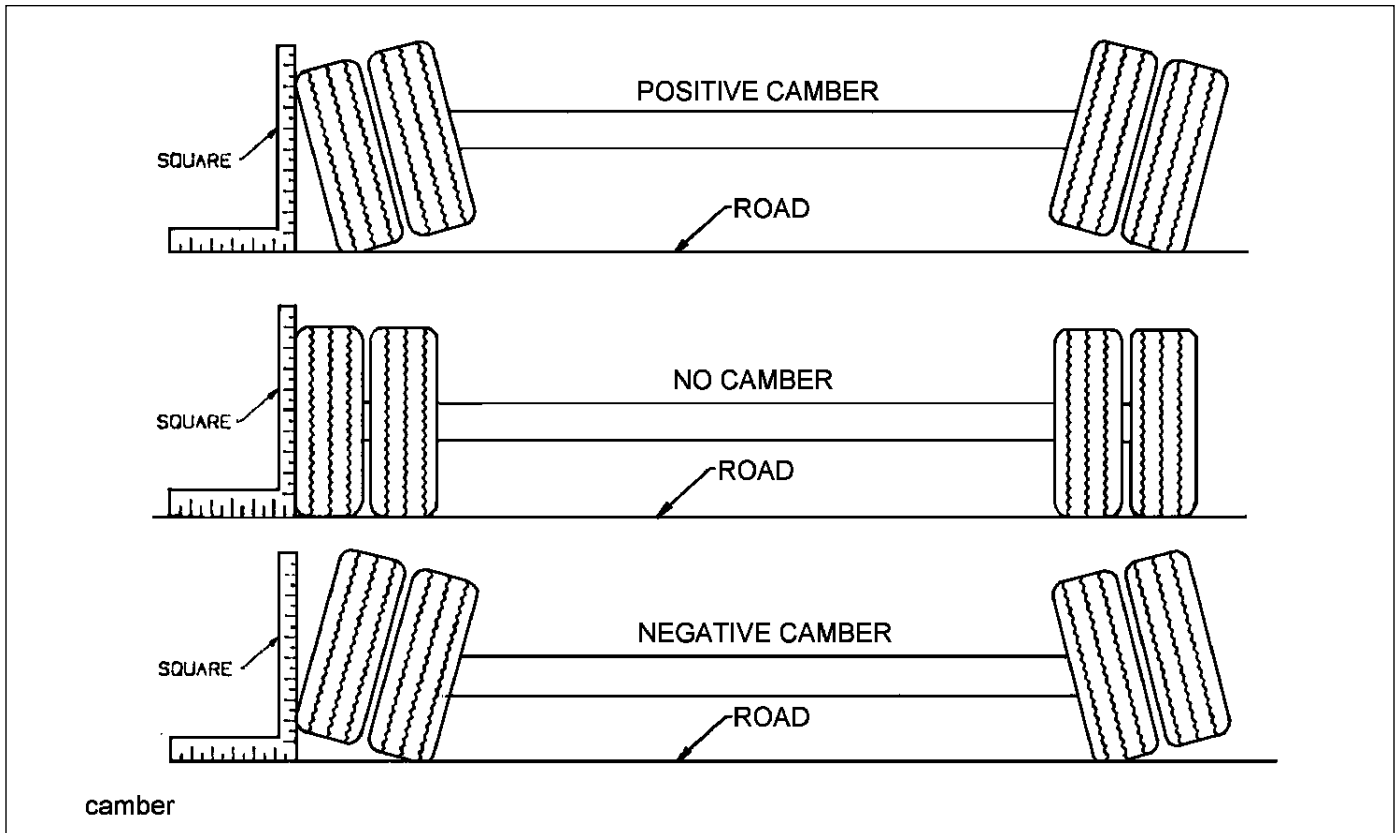

Figure 4-6: Examples of Camber
4. Follow the same procedures as in **Steps 2 and 3**, except place the axle gauge above and below the axle. If gauge point gap is found, the axle has positive or negative camber. The trailer axle has no camber from the factory. If it is found to have positive or negative camber, axle replacement is necessary (See Figure 4-6 for examples of camber).